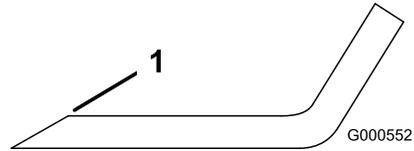

Figure 90
1. Use a file to sharpen the cutting edge at both ends of the blade (Figure 90).